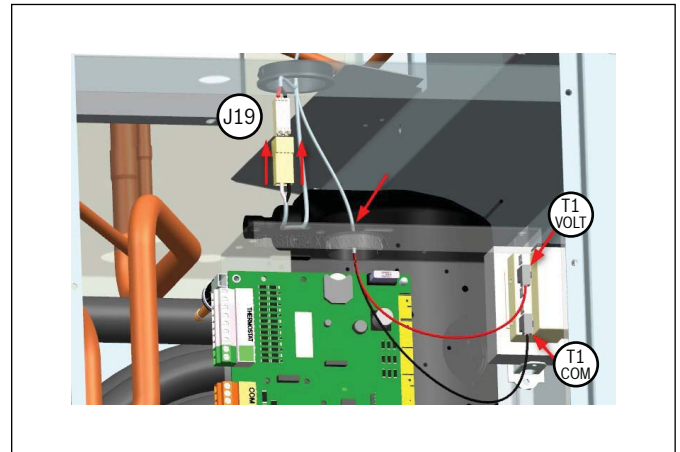

Figure 37
7. Taking this single connector from step 6, connect it to the J19 connector on the Electric Heat wiring harness (red and black wires). Feed just the T1 VOLT and T1 COM wires (two wires) through the top hole into the unit control box. Plug the T1 VOLT (red) into the transformer 240 V or 208V. Plug T1 COM (black) wire into the transformer COM. Typical connections are shown in figure 37.